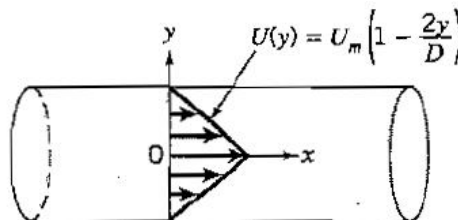

Figure P9.5
9.5 Consider fully developed, steady flow of a constant density Newtonian fluid in a circular pipe of diameter D , as shown in Figure P9.5.